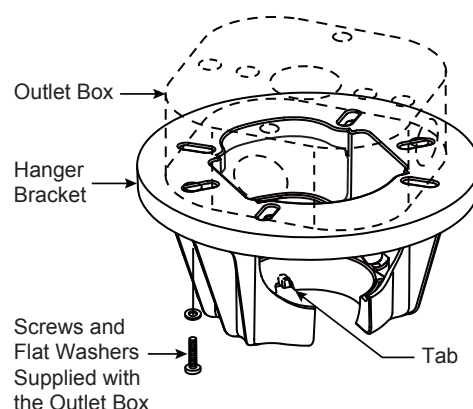
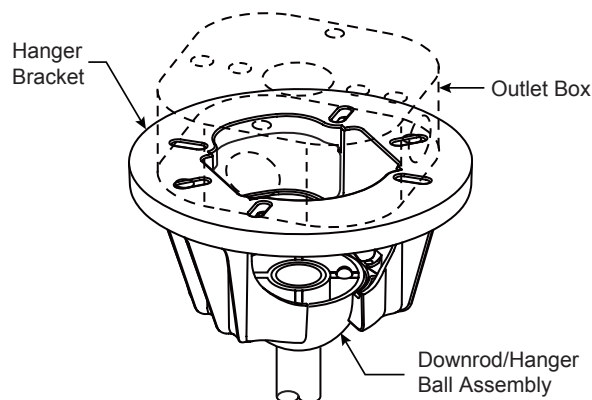

Figure 3
Figure 4
3. Loosen the two set screws and locking nuts in the downrod support of the motor assembly. Route the wires through the downrod. (Figure 3)
4. Slide downrod into the downrod support on top of the motor. Install the clevis pin by aligning the holes in the downrod support with holes in the downrod. Secure clevis pin with hairpin clip. Tighten the two set screws with nuts in the downrod support. Securely tighten the set screws with screwdriver then fully tighten the nuts by hex wrench. (Figure 4)
- ☐ 1. Securely attach the hanger bracket to the outlet box using the outlet box screws and washers supplied with the outlet box. (Figure 3)
NOTE: Outlet box screws pass through slotted holes of the hanger bracket. (Figure 3)
- ☐ 3. Carefully lift the fan and seat the downrod/hanger ball assembly onto the hanger bracket that was just attached to the outlet box. (Figure 4) Be sure the groove in the ball is lined up with tab on the hanger bracket. (Figure 3)
2. Slide the receiver into the hanger bracket before wiring as shown in figure 3.
3. Connect wires using connectors as shown in Figure 4. Connect the 2 pin connectors from the motor assembly to the 2 pin connectors from the receiver, connect the 3 pin connectors from the motor assembly to the 3 pin connectors from the receiver.